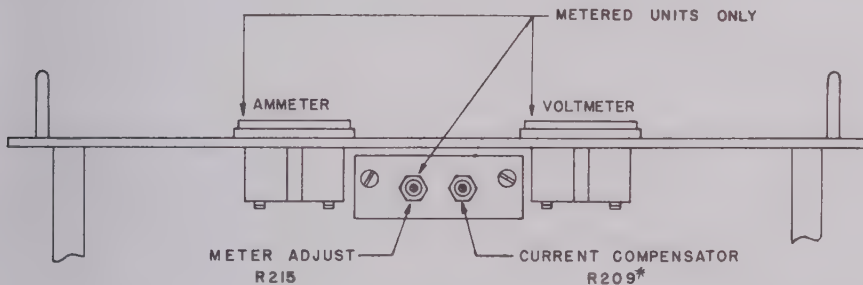

FIG. 5-1 LOCATION OF AMMETER CALIBRATION RESISTOR AND CURRENT COMPENSATOR
- e) Compare panel meter reading with the precision meter readings and correct for discrepancies by loosening lock-nut on R215 (Refer to Fig. 5-1) and adjusting it to the desired value. Relock R215.